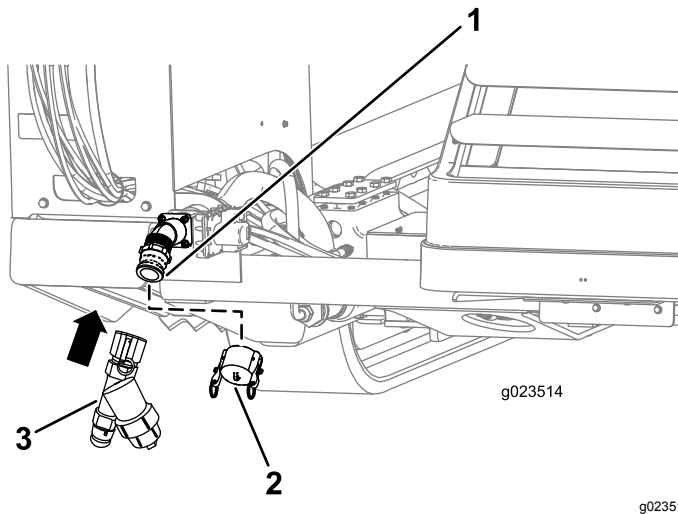

Figure 49
1. Remove the pump-inlet cap (Figure 49).
2. Align the Y-screen with the threads on the pump (Figure 49).